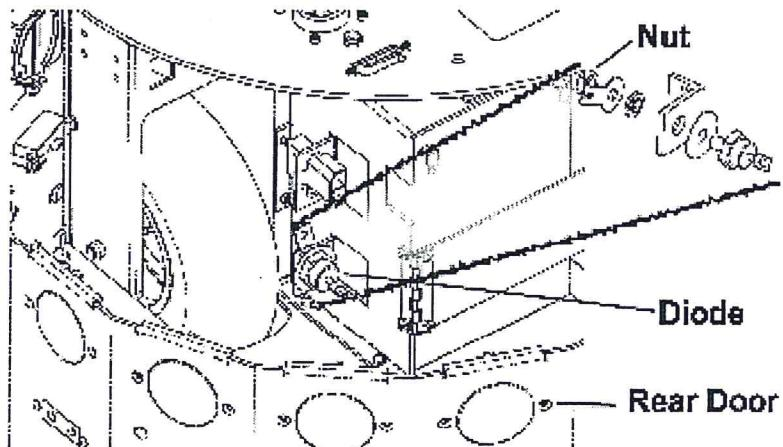

FIGURE 6 - 2. Charger Diode Location
6. Place the positive lead of the voltmeter on the nut of the diode output (see Figure 6 - 2, "Charger Diode Location," on page 6 - 41).